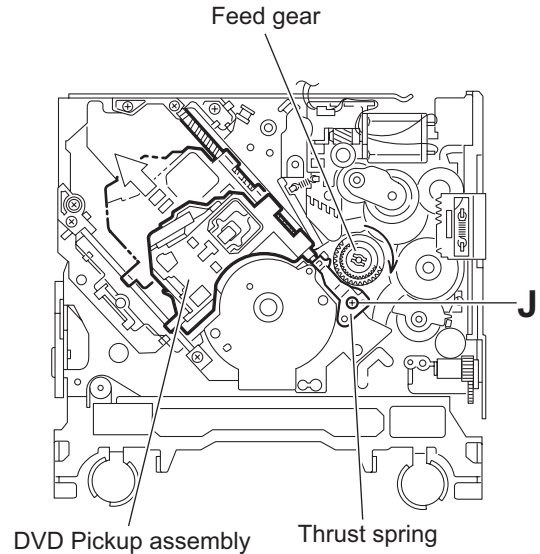

Fig.17
### 3.2.9 Removing the DVD pickup assembly (See Fig.17 to 19)
- From the bottom of the body, turn the feed gear in the direction of the arrow to move the DVD pickup outwards. (See Fig.17.)
- Remove the screw **J** attaching the thrust spring. (See Fig.17.)